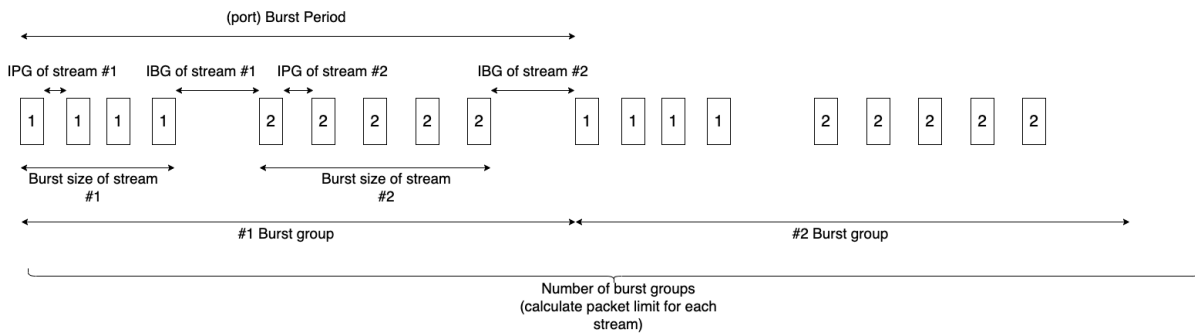

Fig. 5.7: Port TX Burst Mode
- **Burst:** When this mode is selected, frames from the streams on a port are sent as bursts as depicted below: The Burst Period is defined in the *Burst Period*. For the individual streams, the number of packets in a burst is defined by the *Burst Size* in the stream transmission profile. Refer to the Fig. 5.7 below for an illustration of the burst mode.